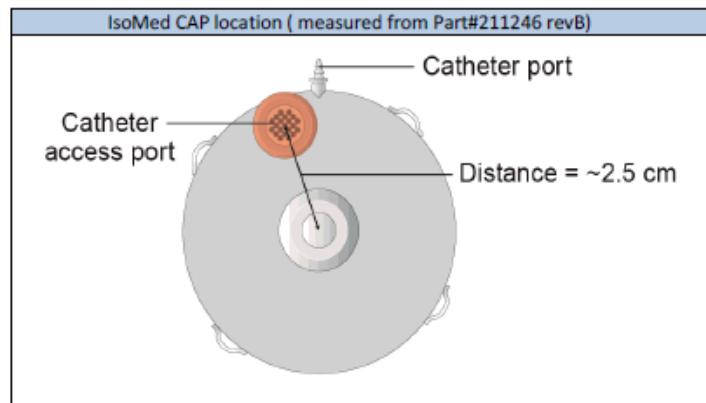

Figure 1: IsoMed Catheter Access Port location
Primary difference: The **TEMPLATE** in the Medtronic Model 8540 SynchroMed II CAP Kit is **NOT compatible** with the IsoMed pump and cannot be used during the CAP procedure. The catheter access port of the IsoMed pump is in a different location than that of the SynchroMed II pump (see Figure 1).
- Palpate for the elevated side CAP of the IsoMed pump (Figures 1 and 2). The CAP is located on the edge of the pump and is approximately 2.5 cm away from the refill port.